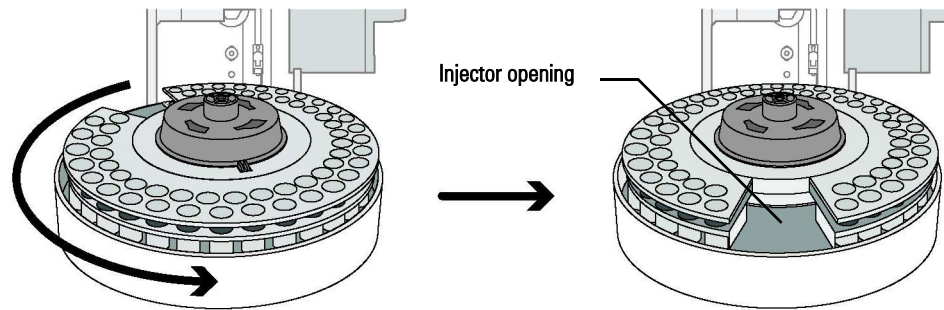

Figure 60 Rotate the turret so that the injector opening faces toward the front of the ALS
- 3 Rotate the turret so that the injector opening faces toward the front of the ALS (Figure 60).
- 5 While holding the turret in place, rotate the turret hubcap in a clockwise direction until it snaps into position on the turret hub. Make sure that the tabs on the turret hubcap align with the turret injector opening as shown in Figure 60.